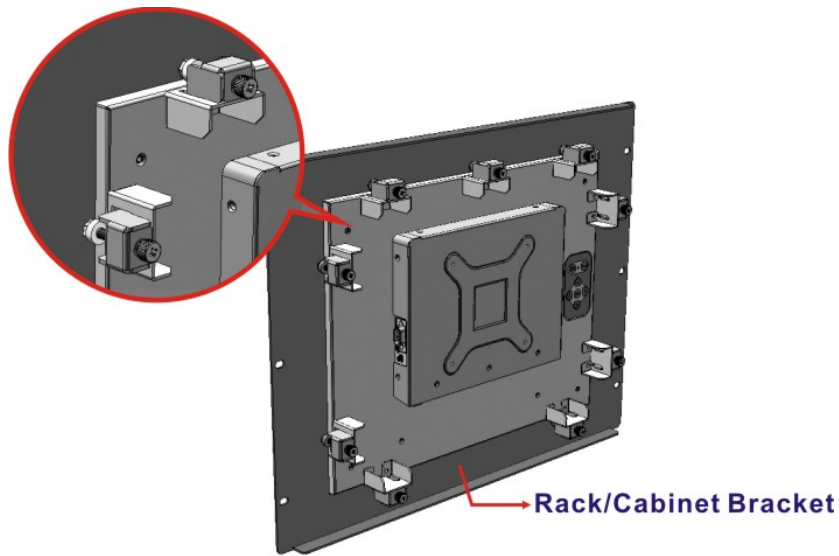

Figure 3-34: Secure the Rack/Cabinet Bracket
Step 3: Insert the panel mounting clamps into the pre-formed holes of the clamp holders (**Figure 3-34**).
Step 4: Tighten the screws that pass through the rack mounting clamps until the plastic caps at the front of all the screws are firmly secured to the bracket (**Figure 3-34**).